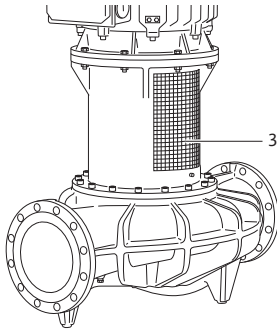

Fig. 42: Installed coupling protection metal sheet
- **The pump may only be operated with the coupling protection metal sheets installed (Fig. 42, Item 3).**